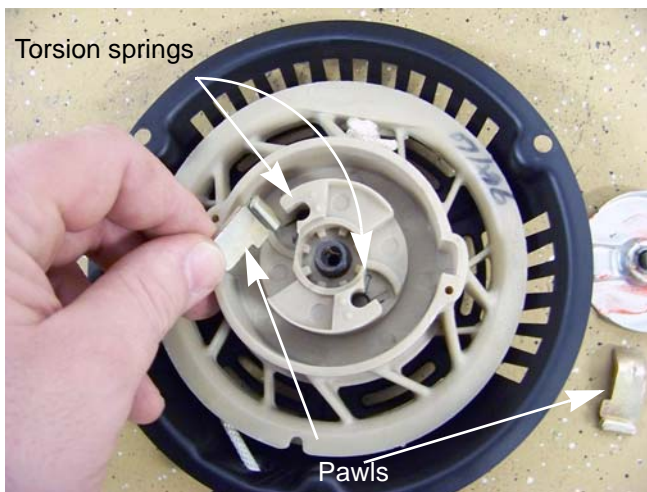

Figure 6.8
4. Inspect the pawls and torsion springs for wear and damage. See Figure 6.8.